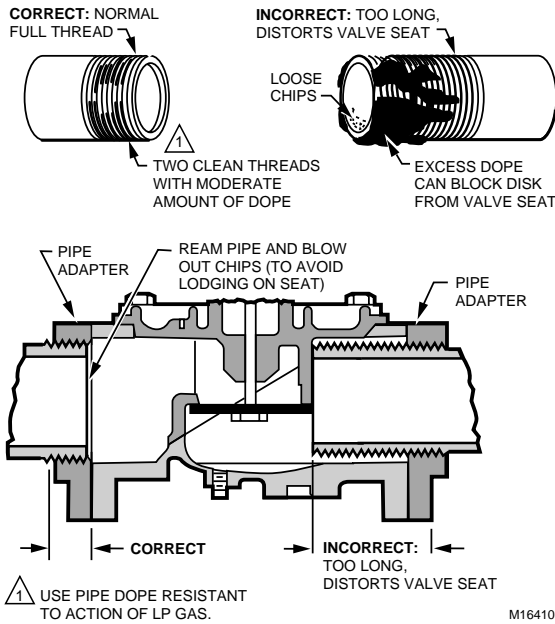

Fig. 14. Preparing pipes.
- b. Apply moderate amounts of good quality pipe dope, resistant to the action of liquid propane (LP) gas, on the pipe threads. See Fig. 14.